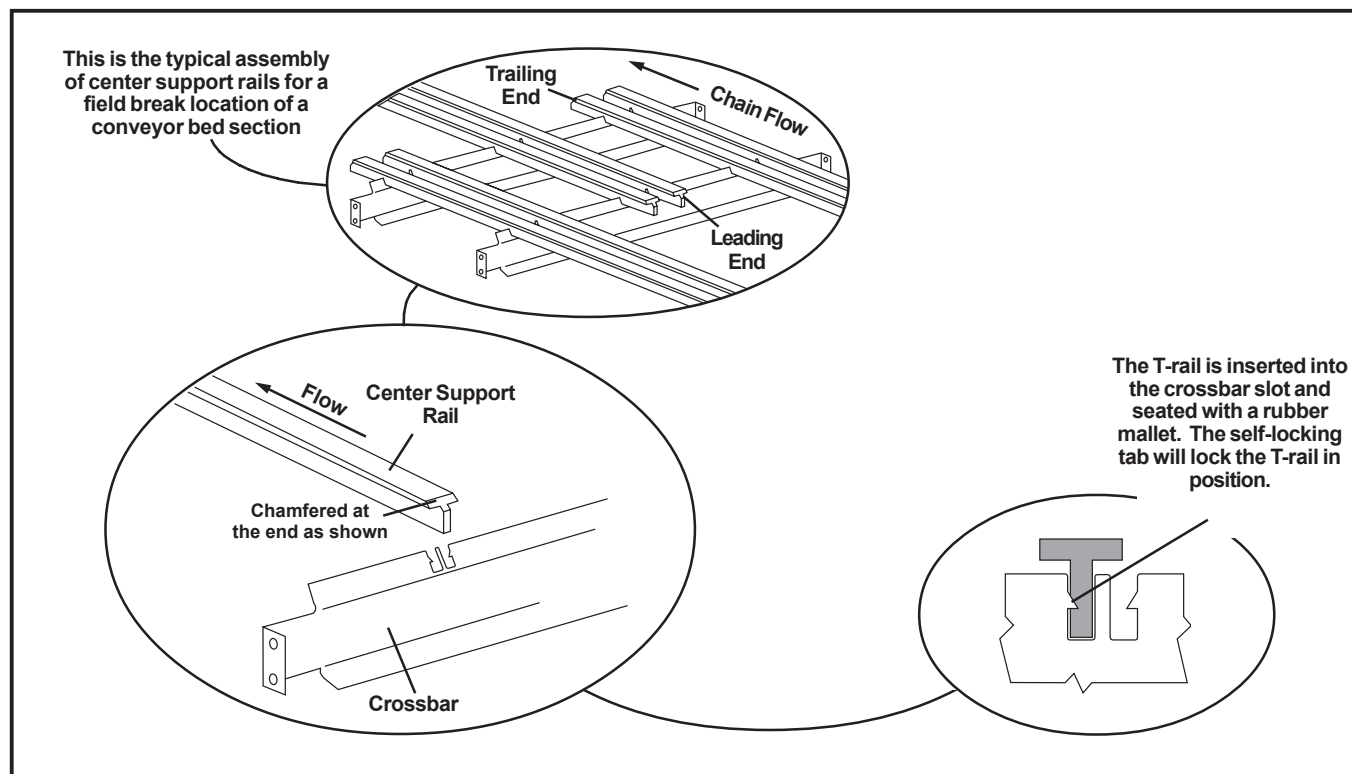
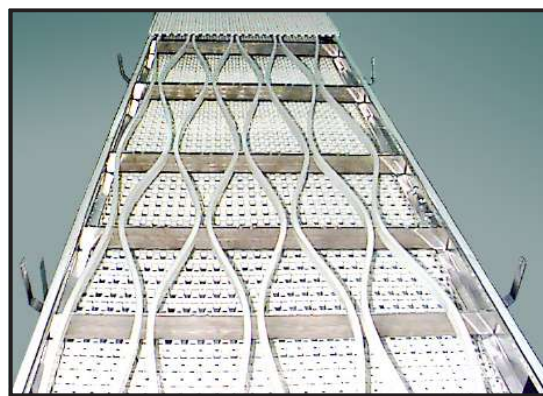

Figure 8: Overview of Center Support Rail assembly
Figure 9: Typical Center Support Rail layout
After the bed sections have been bolted together, the center support rails can be installed. The center support rails (T-rails) provide support for the top chain in the product zone (*Figure 8*), thus preventing the chain from bowing due to the product load. NOTE: *As a rule of thumb, MonoSpan® conveyors and MultiSpan® conveyors that are less than 13.21 inches (335.60 mm) wide do not require center support rails.*
- Using a rubber mallet, tap the T-rail to fully seat it in the crossbar slot. The self-locking tab will lock the T-rail in position (*see Figure 8*).
- Repeat the above steps for all adjacent T-rails, so that the rails create a “wavy” pattern along the entire length of the conveyor (*Figure 9*).
Center support rails should “snake” back and forth throughout the length of the conveyor to avoid wear in one particular spot (*Figure 9*). The trailing end of a rail should extend beyond the leading end of the next rail (as shown in *Figure 8*) so that support is not interrupted. As a general rule of thumb, MaxiSpan® conveyors will have one center support rail weaving under each of the chain’s center links. MultiSpan® conveyors will require a variable number of center support rails, depending on the specific chain pattern. The number of center support rails for your system was specified at the time of purchase and should be indicated on the schematic.
If it becomes necessary to cut and trim a center support rail, hold the trailing end in position and make a mark at the intended cut location (refer to *Figure 8*). Use pruning shears to cut the center support rail at the mark. Chamfer the end of the rail and install the rail, as illustrated and described above.